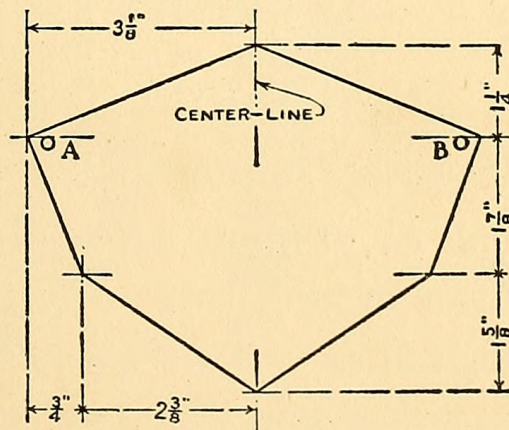

FIG. 243. — Pattern for Key-board.
**The Key-board** shown in Fig. 238 is one of the simplest gifts that can be made. Follow the dimensions given upon the pattern (Fig. 243) in laying out the board. Where two sides of a piece correspond, first draw a center-line, then lay out one side, trace it off upon a piece of tissue paper, turn the